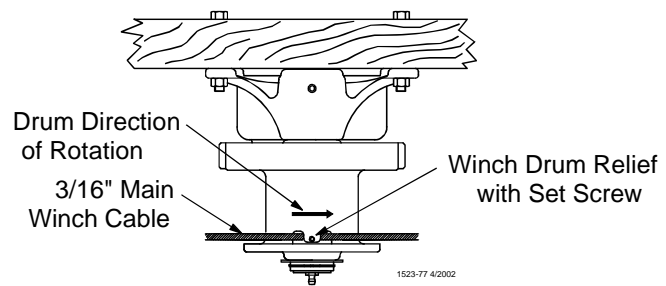

Figure 10. Attaching the cable to the Power Winch
2. Route the cable through the Winch Drum Relief located near the bottom of the drum. Tighten the set screw to anchor the cable to the drum. See **Figure 10**.